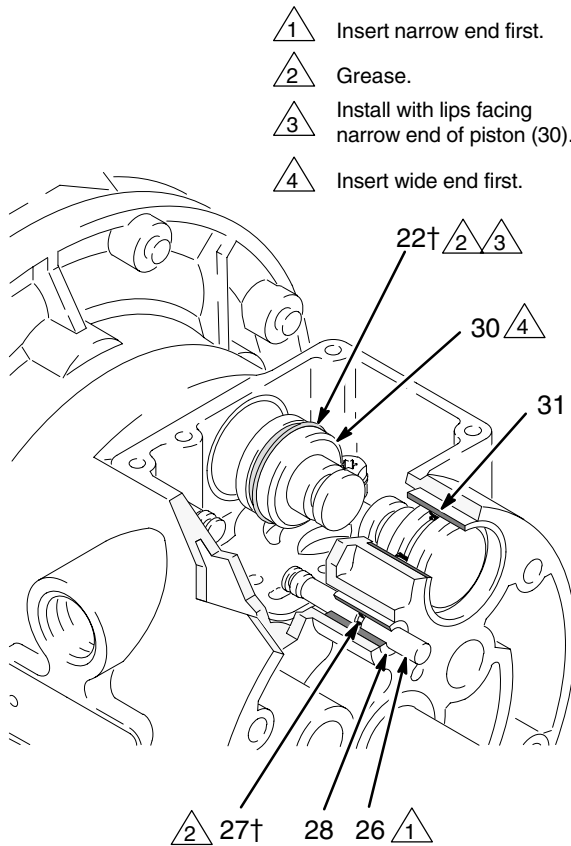

Fig. 10
4. Pull the two actuator pistons (30) out of the bearings (31). Remove the u-cup packings (22) from the pistons. Pull the push pins (26) out of the bearings (28). Remove the o-rings (27) from the push pins. See Fig. 10.
6. Inspect the bearings (28, 31) in place. See Fig. 10. The bearings are tapered and, if damaged, must be removed from the outside. This requires disassembly of the fluid section. See page 22.
4. Install an o-ring (27†) on each push pin (26). Grease the pins and o-rings. Insert the pins into the bearings (28), **narrow** end first. See Fig. 10.
5. Install a u-cup packing (22†) on each actuator piston (30), so the lips of the packings face the **narrow** end of the pistons. See Fig. 10.
6. Lubricate the u-cup packings (22†) and actuator pistons (30). Insert the actuator pistons in the bearings (31), **wide** end first. Leave the narrow end of the pistons exposed. See Fig. 10.